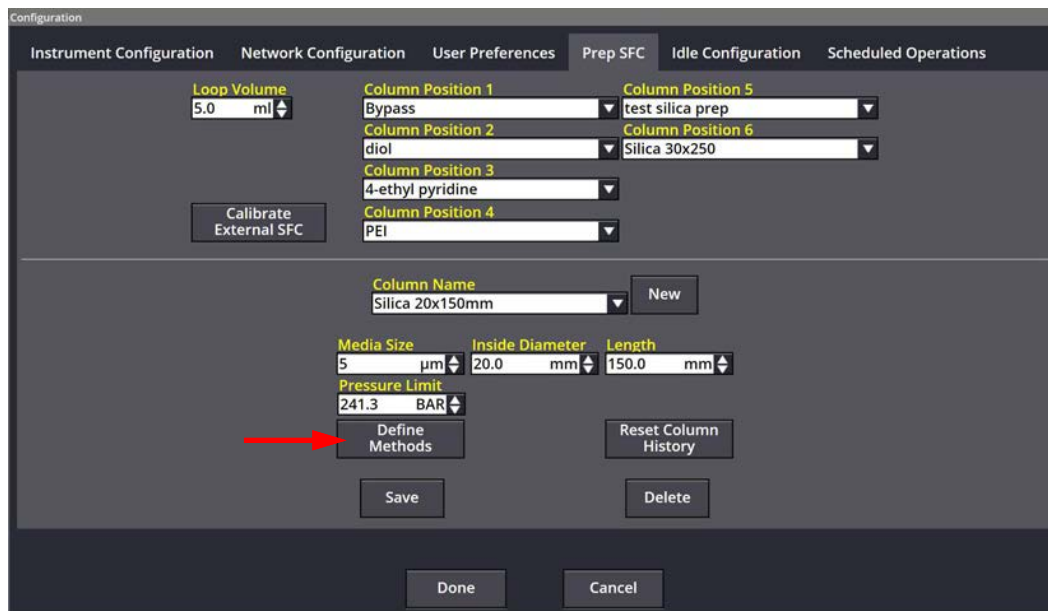
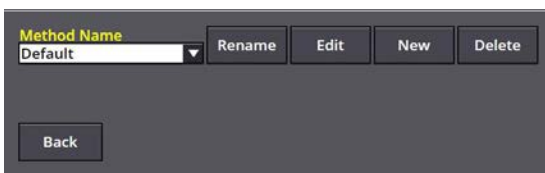

Figure 2-11 The Define Methods button
Figure 2-12 Define Methods options on the Prep SFC tab
1. CONFIGURATION > PREP HPLC Tab > CALIBRATE EXTERNAL SFC. The CALIBRATE EXTERNAL SFC window opens (Figure 2-11).
3. Select DEFINE METHODS on the PREP SFC tab (Figure 2-11). The tab then shows options to define methods for your selected column (Figure 2-12).